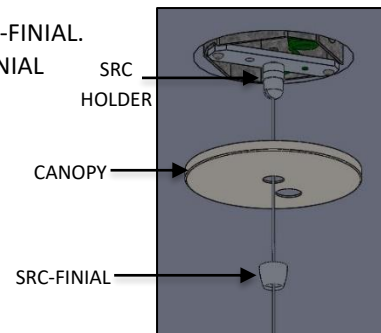

FIG. 15 – CANOPY INSTALLATION
13. Pass the remaining Aircraft cable through the canopy and SRC-FINIAL. Loosely secure CANOPY to the ceiling by threading the SRC-FINIAL to the SRC-HOLDER as shown in FIG. 15.